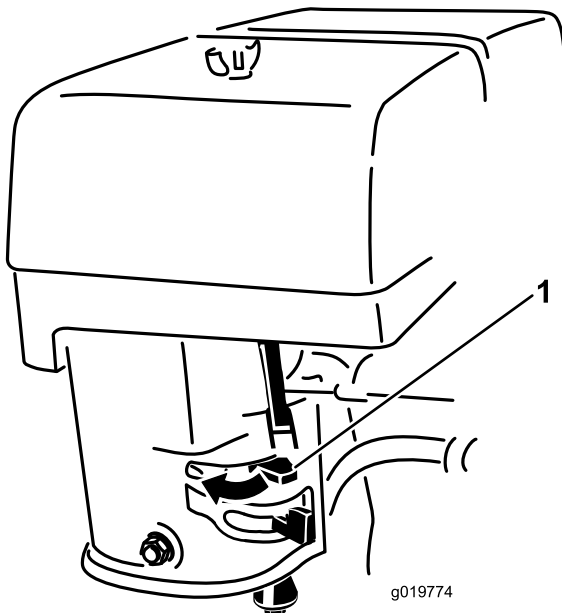

Figure 13
3. Move the choke lever to the left if you are starting a cold engine (Figure 13).